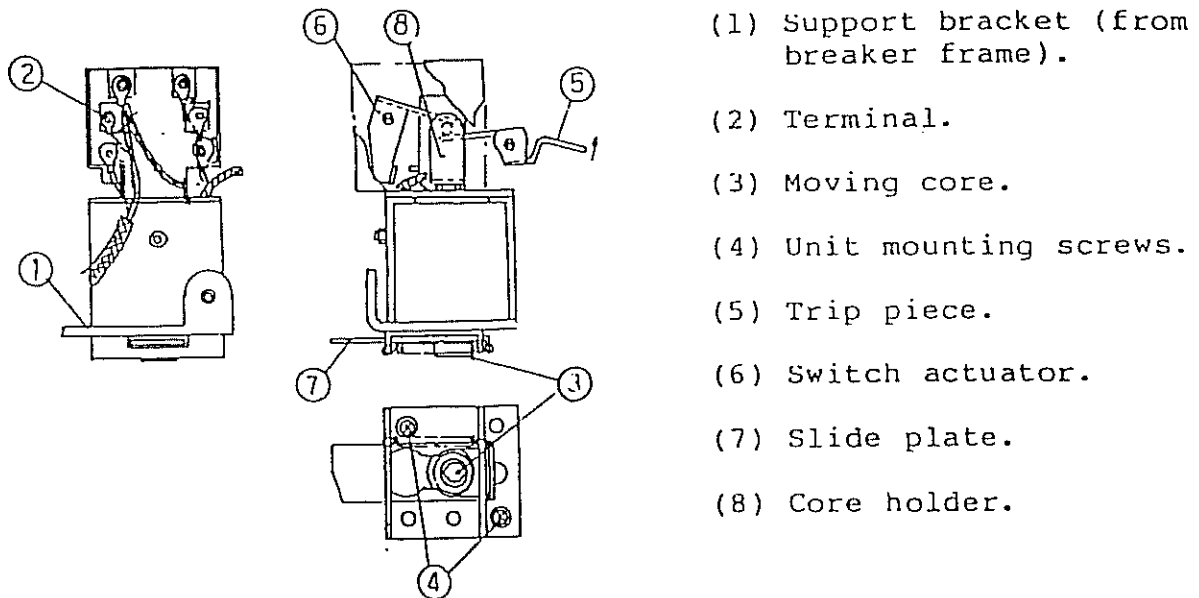

Fig. 18. UVT coil unit (de-energized, operate state).
#### 4.2.2 Replacement of UVT Coil Unit (Fig. 18)
To lock the UVT in RESET state, push up the moving core (Fig. 18 (3)) until it is caught in position. With the UVT mechanically locked in RESET state, the breaker can be closed. To unlock, force down the tip of the switch actuator (Fig. 18 (6)). This returns the moving core to the original position. If the moving core is left locked, the slide plate (Fig. 18 (7)) will be kept in the out position by the moving core to interfere with mounting of the front panel (Fig. 1 (21)).